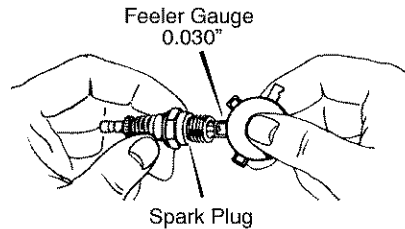

Figure 22
2. Check the **spark plug** gap with a **feeler gauge** and reset gap to 0.30" if necessary. See Figure 22.